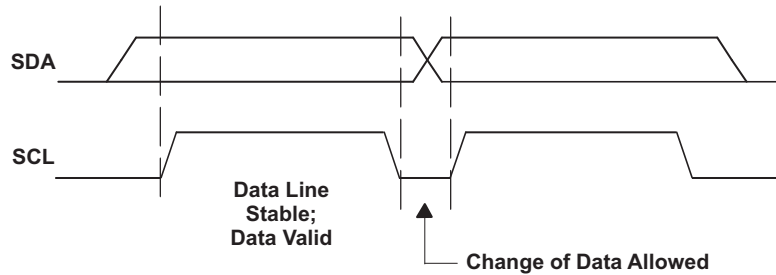
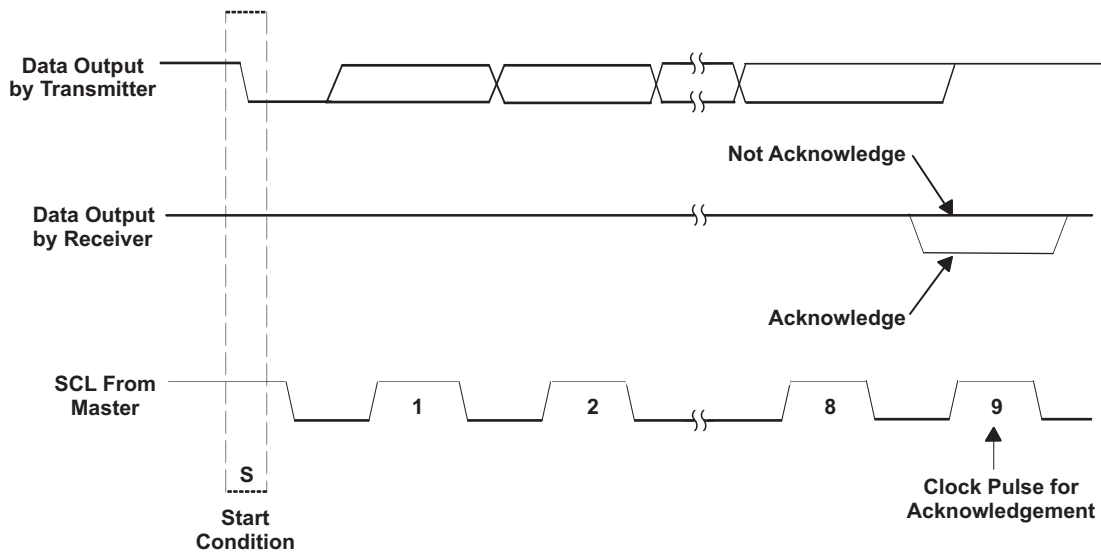

Figure 10. I²C Bit Transfer
Figure 11. I²C Acknowledge
- The master then generates the SCL pulses and transmits the 7-bit address and the *read/write direction bit* R/W on the SDA line. During all transmissions, the master ensures that data are *valid*. A *valid data* condition requires the SDA line to be stable during the entire high period of the clock pulse (see Figure 10). All devices recognize the address sent by the master and compare it to their internal fixed addresses. Only the slave device with a matching address generates an *acknowledge* (see Figure 11) by pulling the SDA line low during the entire high period of the ninth SCL cycle. On detecting this acknowledge, the master knows that a communication link with a slave has been established.